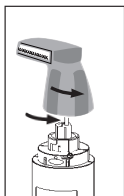

Fig.2
3. Unplug clipper and slightly loosen screws. (See FIG. 2)
To remove a trimming blade, turn the head counter clockwise until the 'I' mark aligns with the "←" mark (Fig.2), then lift the head gently.